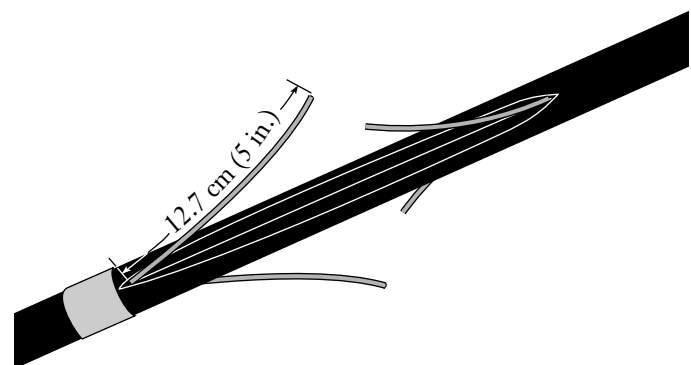

Figure 27
7.7 Use side cutters to cut the steel rods 12.7 cm (5 in.) from the tape wrap (Figure 27).